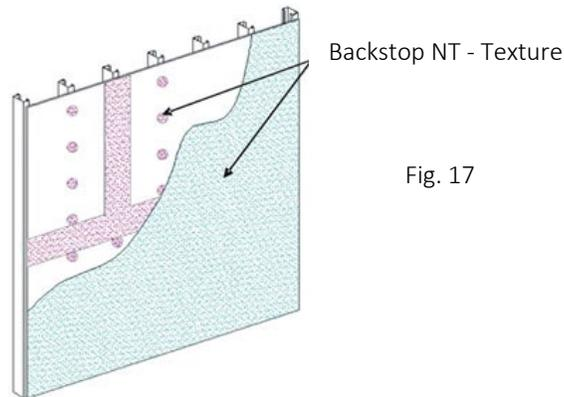

Fig. 17
- 3) Use a coarse, open-cell foam roller cover with a 3/8 in (9.5 mm) foam nap (FoamPRO #58 roller). Apply a uniform, continuous film of Backstop NT – Texture over the entire surface of the sheathing, concrete or masonry, including the previously treated areas – Figure 17.